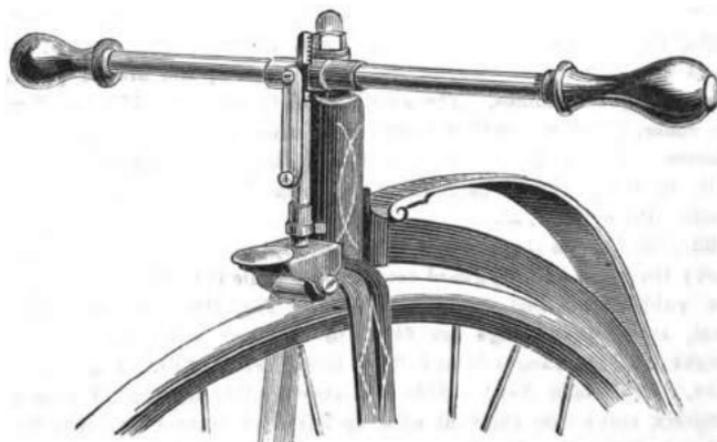

FIG. 8. THE TIMBERLAKE BRAKE.
original maker, the brake (Fig. 8) having, in no little measure, assisted its popularity. This was one of the earliest improved front wheel brakes, and it differs from any other in use. The handles are free to revolve, and in the centre a ratchet is fixed. This acts on an upright bar similarly notched, which is held by a guard coming out from beneath the head; the lower extremity is fitted with a brass roller shaped to fit the rubber. On turning the handles the bar is depressed, which brings the roller firmly on the tyre. The advantage of the ratchet is that it takes all strain off the hands when applying it, as it remains on, and the pressure can be regulated to a nicety; a brass guard prevents the mud from flying, and a rubber band keeps it off the tyre when not wanted. It has many advantages, among others, it
37. *The Timberlake Ordinary Roadster.*—This is of stouter build than the foregoing, and is slightly different in some details. Iron V rims are used, and forty-eight wire spokes to a 52in., direct action into gun-metal hubs, which have flat edges. They are keyed and "sweated" on a steel axle, the wearing parts of which are hardened. Roller bearings take the place of balls, and are bolted to the solid iron (Lowmoor) forks. The spring is unusually long, but any disadvantage that is incurred is compensated for by the easy and pliable support it affords to the suspension saddle; it slides freely on the steel tubular "bone." The step can be adjusted, and as it is of a fair size, it affords a good foothold in mounting. The cranks are fixed, and the Stanley head is made open, or closed if preferred. The handles are set slightly forwards, and in other points it agrees with its stable companion, being a thoroughly strong and trustworthy machine. Either a lever or the patent brake (Fig. 8) is fitted. It averages about 4lb. or 5lb. heavier than the other in weight. Price, 52in., from £13 11s.